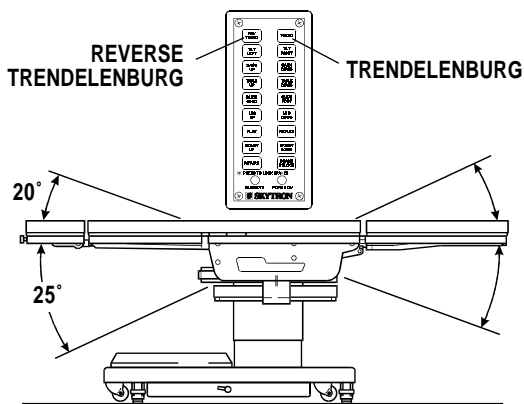

Figure 2-4. Trendelenburg Positioning
b. Trendelenburg. To place the surgical table in a trendelenburg (head down) position, press the TREND button (figure 2-4). Trendelenburg positioning of up to 25° may be obtained. To place the table in a reverse trendelenburg (head up) position, press the REV TREND button. Reverse Trendelenburg positioning of up to 20° may be obtained.